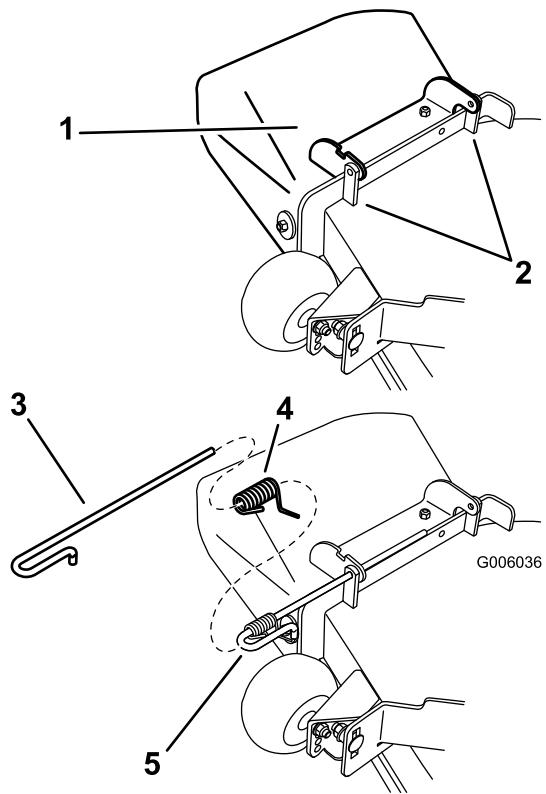

Figure 64
brackets, spring, and discharge deflector (Figure 64). Remove the damaged or worn discharge deflector.
2. Position the new discharge deflector assembly with the bracket ends between the welded brackets on the deck as shown in Figure 64.